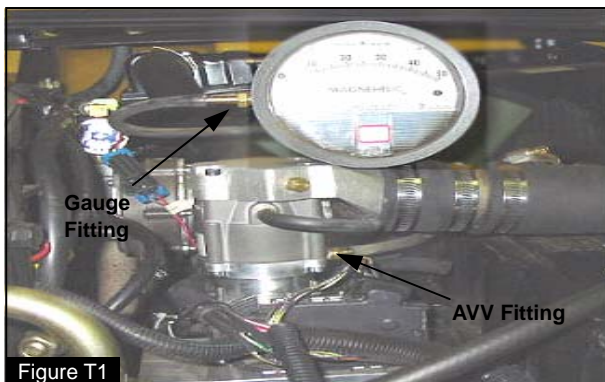

Figure T1
2. Connect the vacuum hose from the Union Tee fitting to the Magnahelic gauge (Figure T1). You should now have the gauge inline between the FTV and the mixer to throttle adapter.